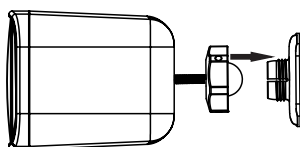

figure 3
Move the complete set (loudspeaker+ ball threaded + locking nut) to the wall-mount piece (1). See figure 3.